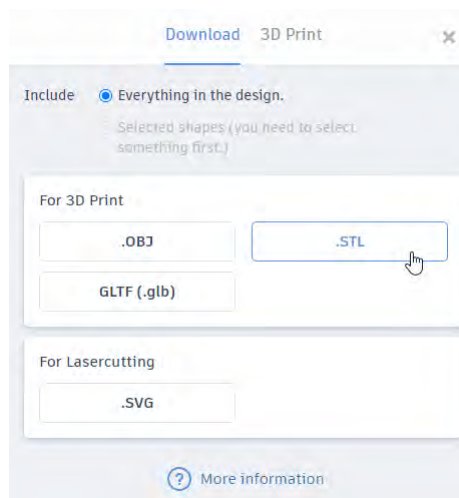

Figure 15.7: Exporting as STL
28. Then you should see a similar output as shown in Figure 15.7.